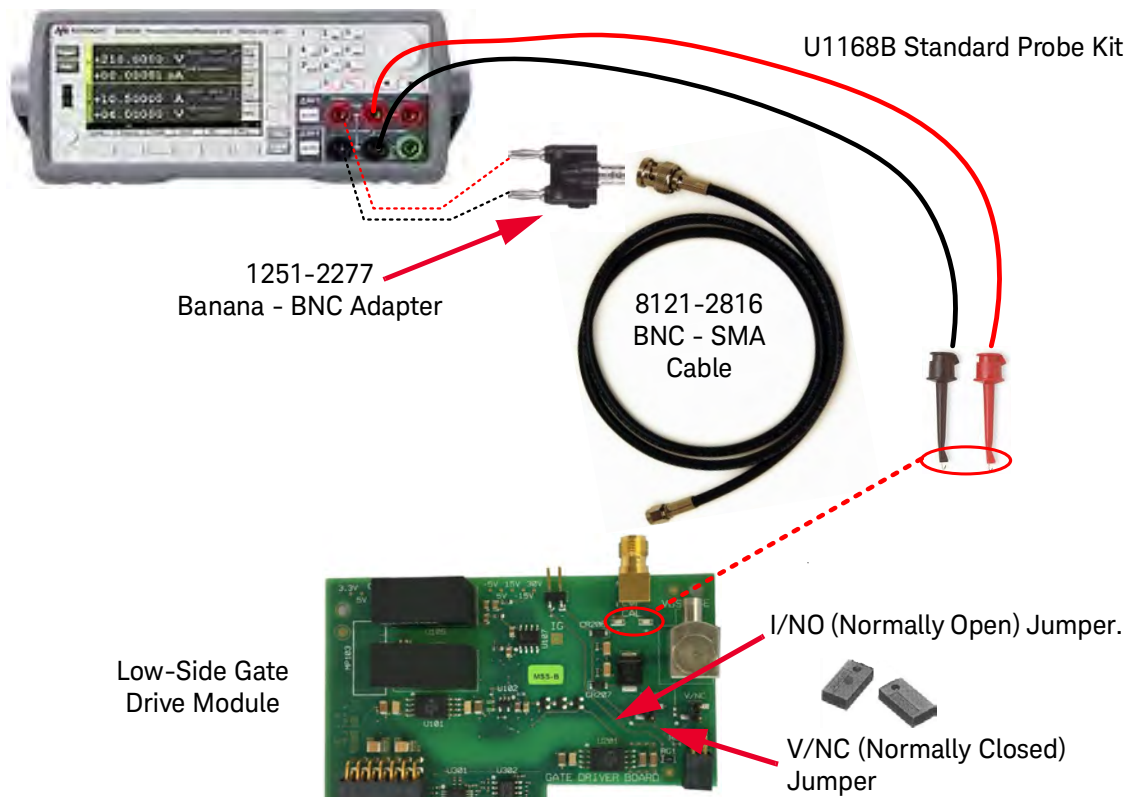

Figure 22 Setup for the Gate Resistance Calibration 4-Wire Measurements
Hardware Setup: See Figure 22 below.
- Refer to Figure 22 below. Install both calibration cables to connect the B2902A SMU to the Low-Side Gate Drive module.